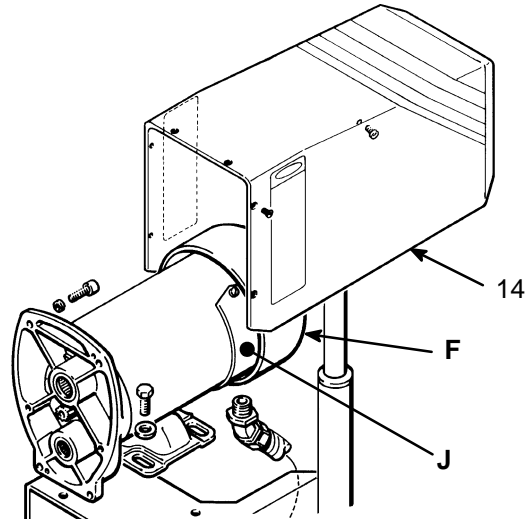

Fig 20-1
Remove the pressure control cover. Remove the motor shield (14). Remove the fan cover (F) and the inspection covers (J). See Fig 20-1.